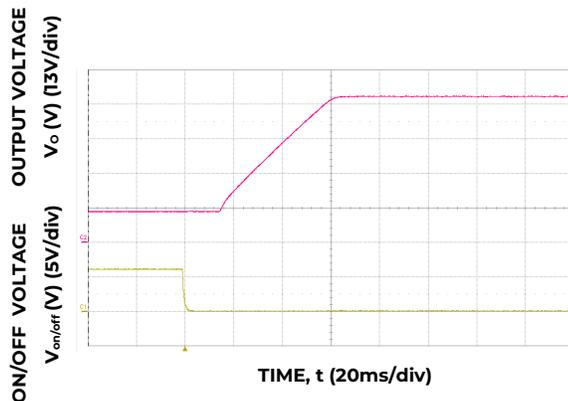

Figure 23. Typical Start-up Using On/Off Voltage ( $I_o = I_{o,max}$ ).
- Please note because of the specific design of the BOOST topology, the input voltage will present on the output when the input voltage is applied. This will occur even when the unit is in its "OFF" State. When the module is turned ON, the output voltage will start to rise from  $V_{in}$  level and not 0V. When turning off, the output will only drop back to  $V_{in}$  (If  $V_{in}$  is still present). Please refer to Figure 23 for typical start-up waveform using Remote ON/OFF. It shows the  $V_{in}$  level present prior to turning the module "ON"
When the module is turned ON, the output voltage will start to rise from Vin level and not 0V. When turning off, the output will only drop back to Vin (If Vin is still present). Please refer to Figure 23 for typical start-up waveform using Remote ON/OFF. it shows the Vin level present prior to turning the module "ON"